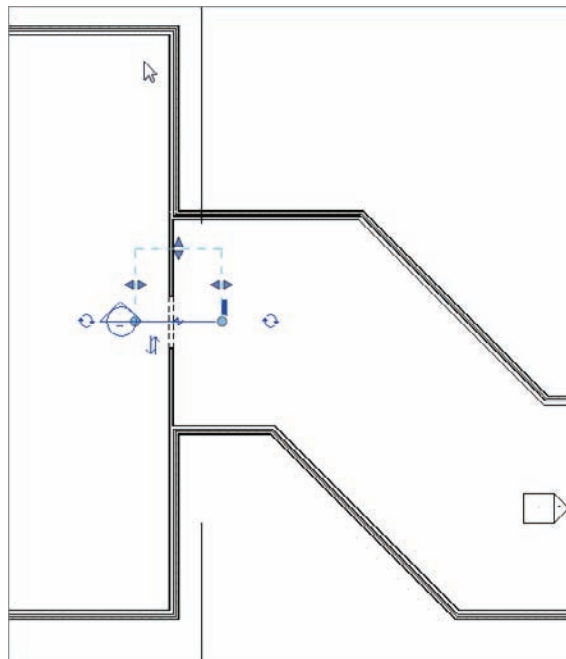

FIGURE 3.54 The wall section in the plan
5. Add the section through the corridor wall that was modified in the previous section of this chapter, as shown in Figure 3.54.